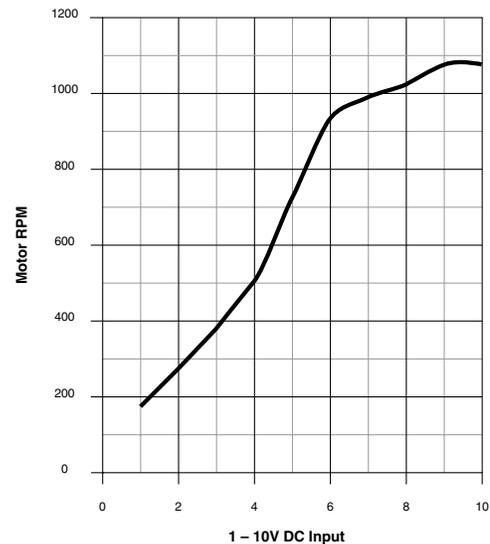

Figure 2 Typical 1075 RPM Motor Curve
- Refer to Figures 2, 3, 4, 5 or 6 for appropriate wiring diagram.
- 1 – 10V DC Input applications require installer to scale speed of motor to accomplish head pressure control. See Figure 2 illustration for determining typical speed regulation requirement.